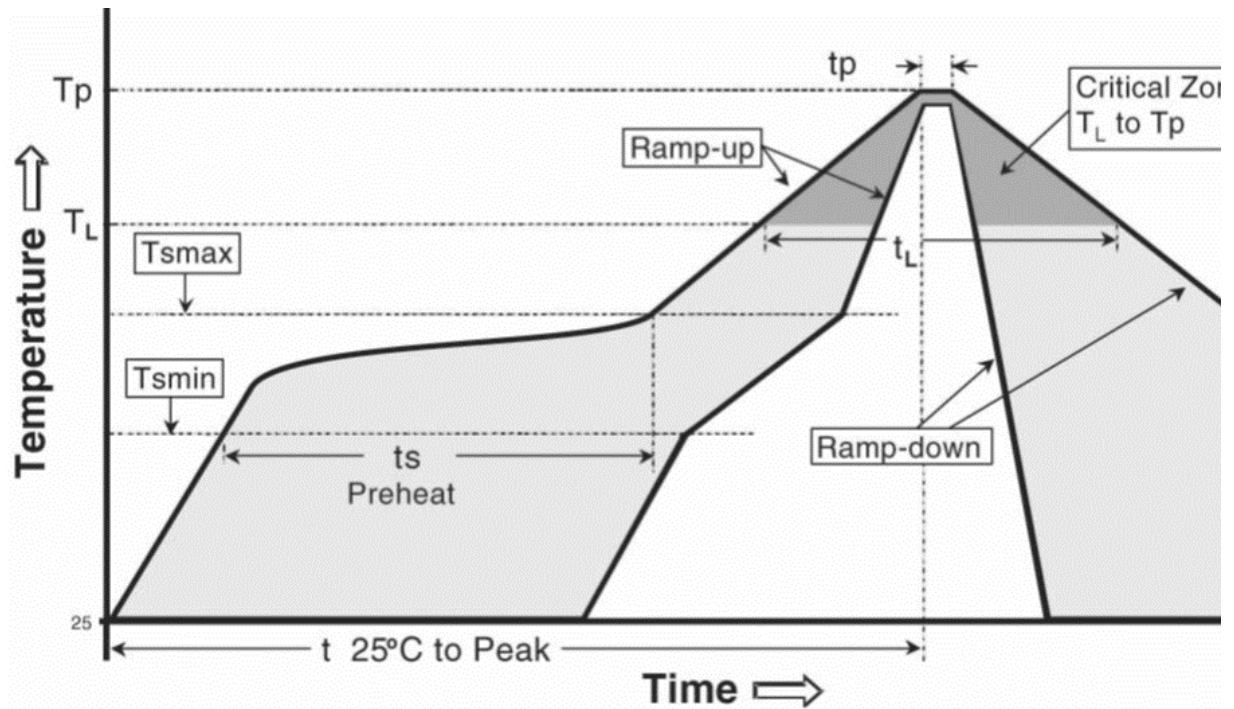

Figure 7 – Temperature profile.
2. Perform a reflow process according to the temperature profile detailed in Table 3, Figure 7 on page 13.